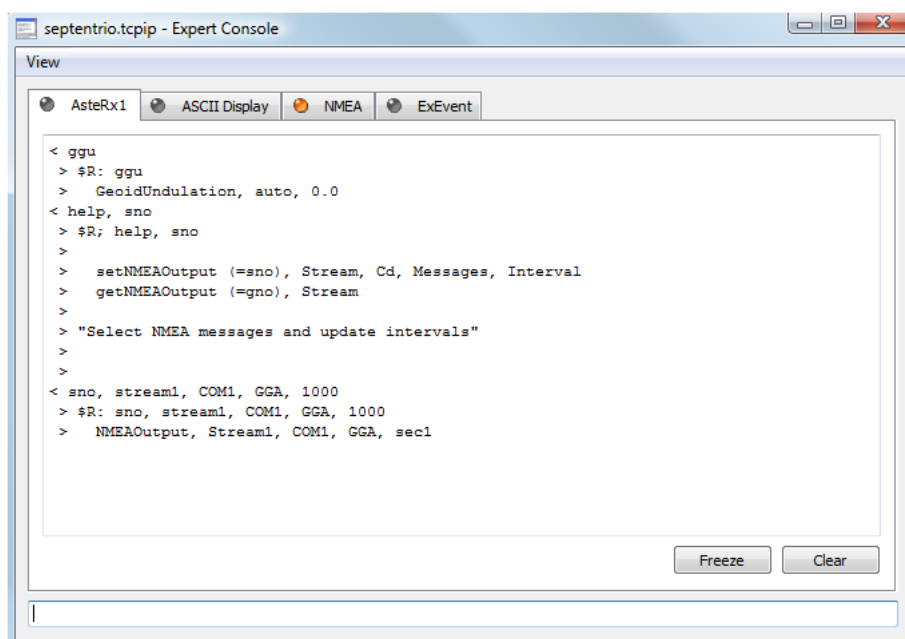

Figure 2.6-1: The Expert Console displaying its Receiver Communication tab
- At the bottom of the Expert Console is the **command line** (see Figure 2.6-1 on the next page) used for sending commands to the Septentrio Receiver. The `command line` is explained in more detail in Section 2.6.1.
The `Receiver Commands` tab of the Expert Console is the first tab and forms the central communication channel with the Septentrio Receiver for the expert user. The window is split up in the **message area** and the **command line** (see Figure 2.6-1 on the next page). The expert user enters his/her commands on the command line, sending them to the Septentrio Receiver by pressing the `Enter` key. The message area displays the commands entered and the replies received from the Septentrio Receiver.